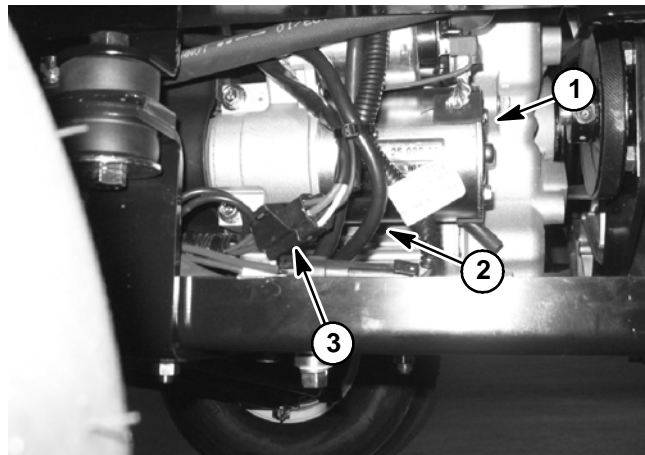

Figure 18
9. Disconnect engine electrical connections (Fig. 18). Position unplugged wires away from engine.
12. Loosen and remove three (3) remaining flange head screws and flange nuts that secure engine to engine mounting plate.
4. Position engine to engine mounting plate. Secure engine to engine mounting plate with three (3) flange head screws and flange nuts. The flange head screw under the starter motor should not be installed at this time because it is also used to secure the wire harness ground and negative (-) cable.
5. Reconnect engine electrical connections (Fig. 18).